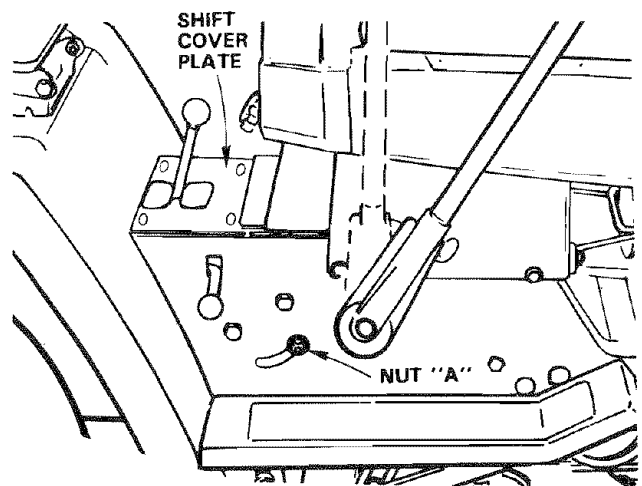

FIGURE 35
- Loosen nut "A" on R.H. outside of frame (Fig. 35).
- a. To tighten belt, remove (4) hex washer head tapping screws from shift cover plate (Fig. 35) located on top of tractor frame. Remove the cover plate.
- c. Loosen nut "A" located on outside of R.H. chassis frame (Fig. 35), slide take-up idler down approximately 1/2" and tighten nut "A".